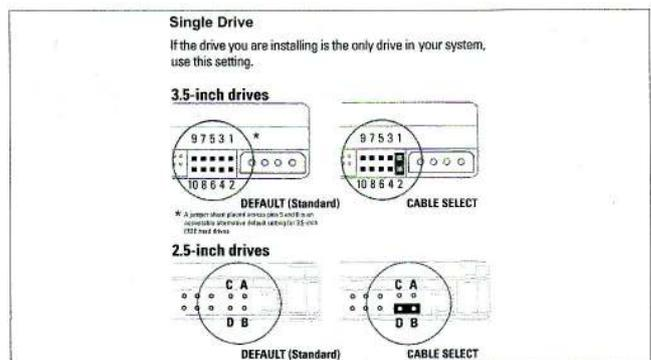

Figure 3. EIDE Single Hard Drive Jumper Settings
To install your new WD hard drive as the only hard drive in your system, use jumpers as shown in Figure 3.
2. Check jumper settings (see Figures 3 and 4).
**Important:** CSEL jumper settings cannot be used when alternate jumpers are selected. Use the jumper settings illustrated in Figure 3 or 4 for CSEL. Alternate jumper settings are not intended for systems other than Windows 98/98SE/Me.